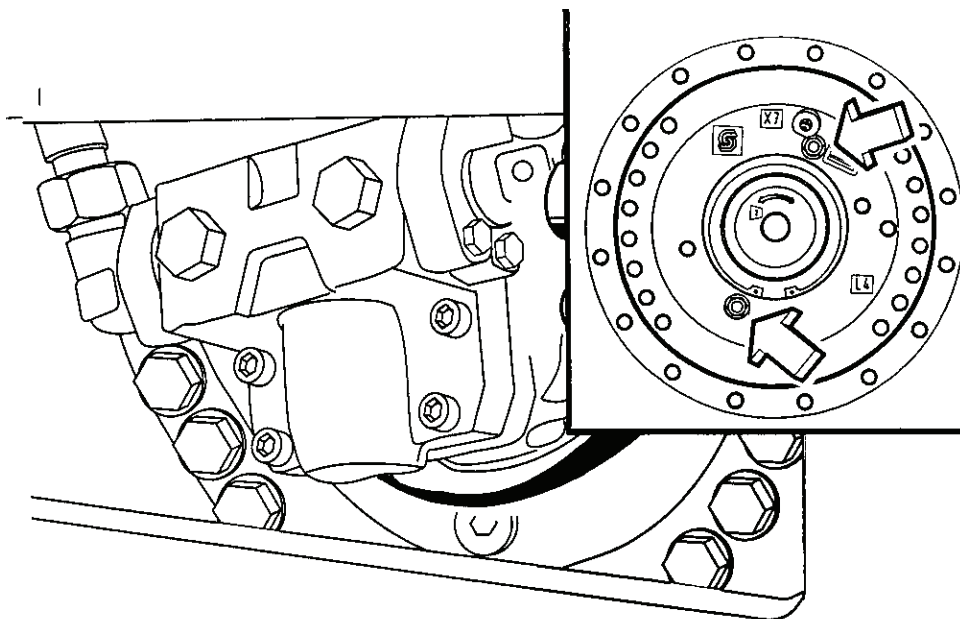

Fig. 20: Manual releasing of the brake in the drum drive CR31
- Turn both screws (Fig. 20) for releasing the brake in the drum drive reduction gear evenly in clockwise direction, until the drum can be turned freely.